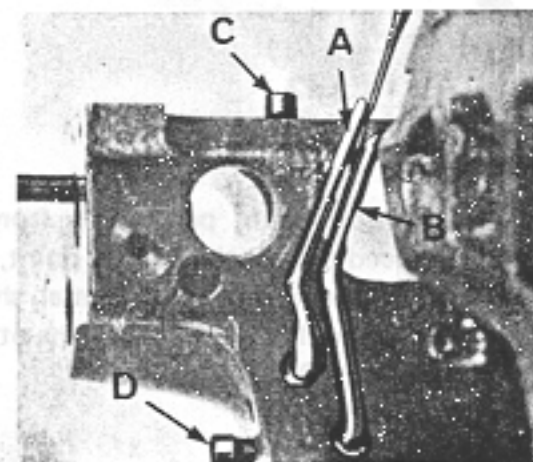

fig. 10
6. Attaching needle guards (fig. 10).